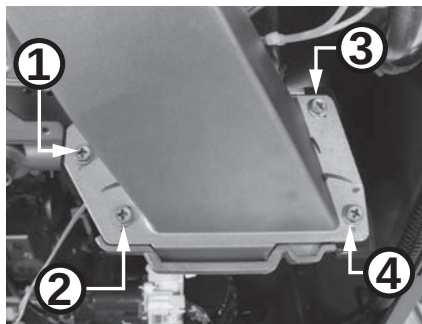

Figure 84 - Remove fan assembly screws
- 10** Locate the four (4) screws securing the fan assembly to the burner assembly as shown in Figure 84. Use a Phillips screwdriver to remove the screws. Place the screws aside in a safe place for reinstallation.